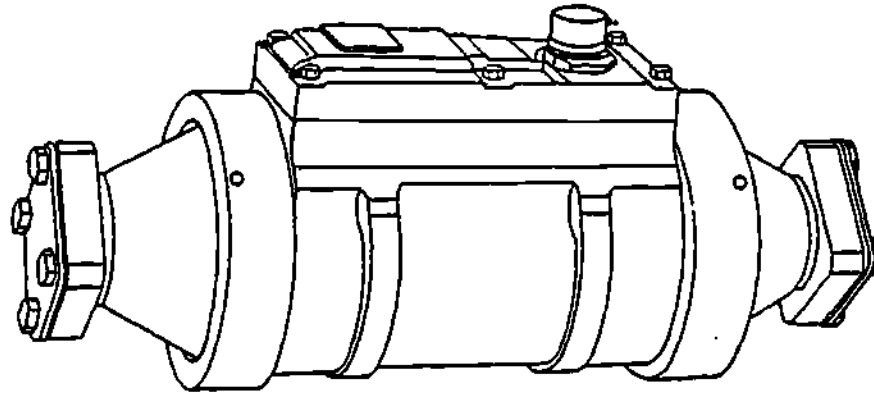
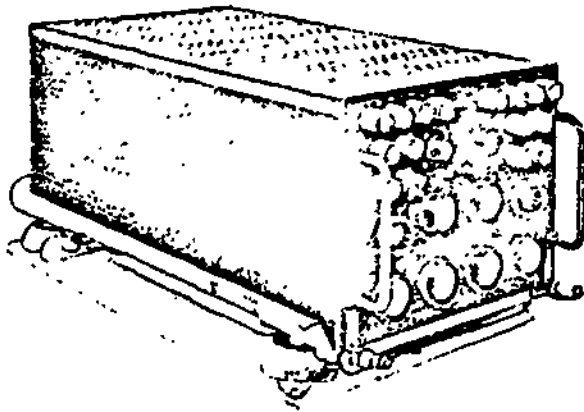
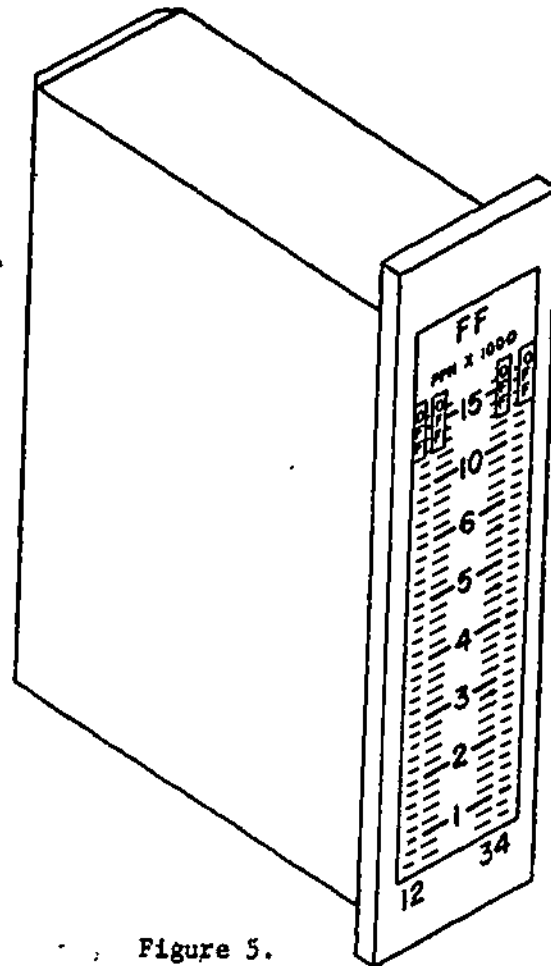
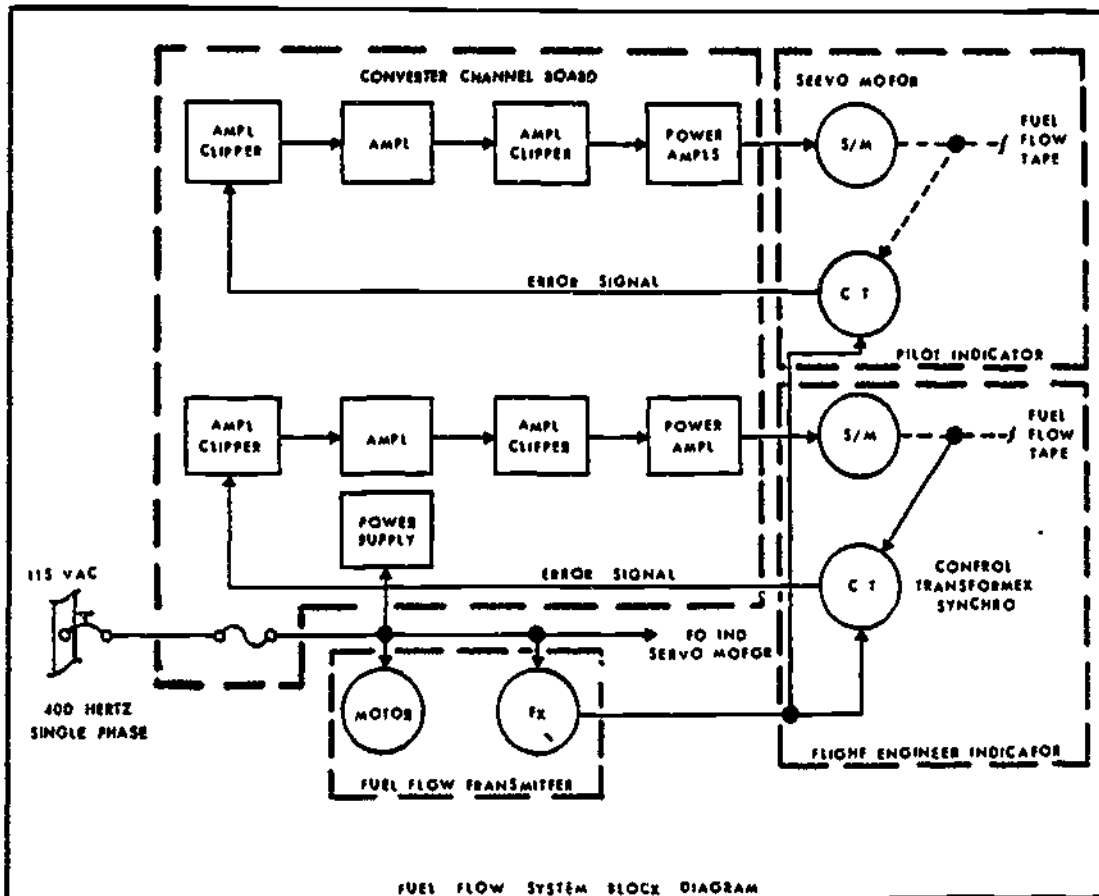

Figure 3.
Figure 4.
Figure 5.
Figure 6.
The vertical scale engine instrument fuel flow system consists of the engine-mounted signal-producing components, the converter unit, and the indicator. Figure 3 shows the transmitter, figure 4 shows the converter, and figure 5 shows the indicator. The signal producing component is the transmitter. Each engine has a fuel flow transmitter (sensor), that is mounted on or near the engine. Since system operation begins with the signal produced by the signal-sensing component, that is the first item we will learn about.
The fuel flow transmitter shown in figure 3 differs greatly from the fuel flow transmitter you studied in an earlier programmed text. However, the signal output to the fuel flow indicating system is the same. The transmitter (TX) provides a synchro signal output to the system. This signal is applied directly to the control transformer (CT) in the indicators. See figure 6 (next page). The angular position of the synchro rotor is directly proportional to the rate of fuel flow.
Refer to figure 6 to complete the following statement. Circle the letter preceding the correct response.
Refer to figure 6 to complete the following statement. Circle the letter preceding the correct alternative.